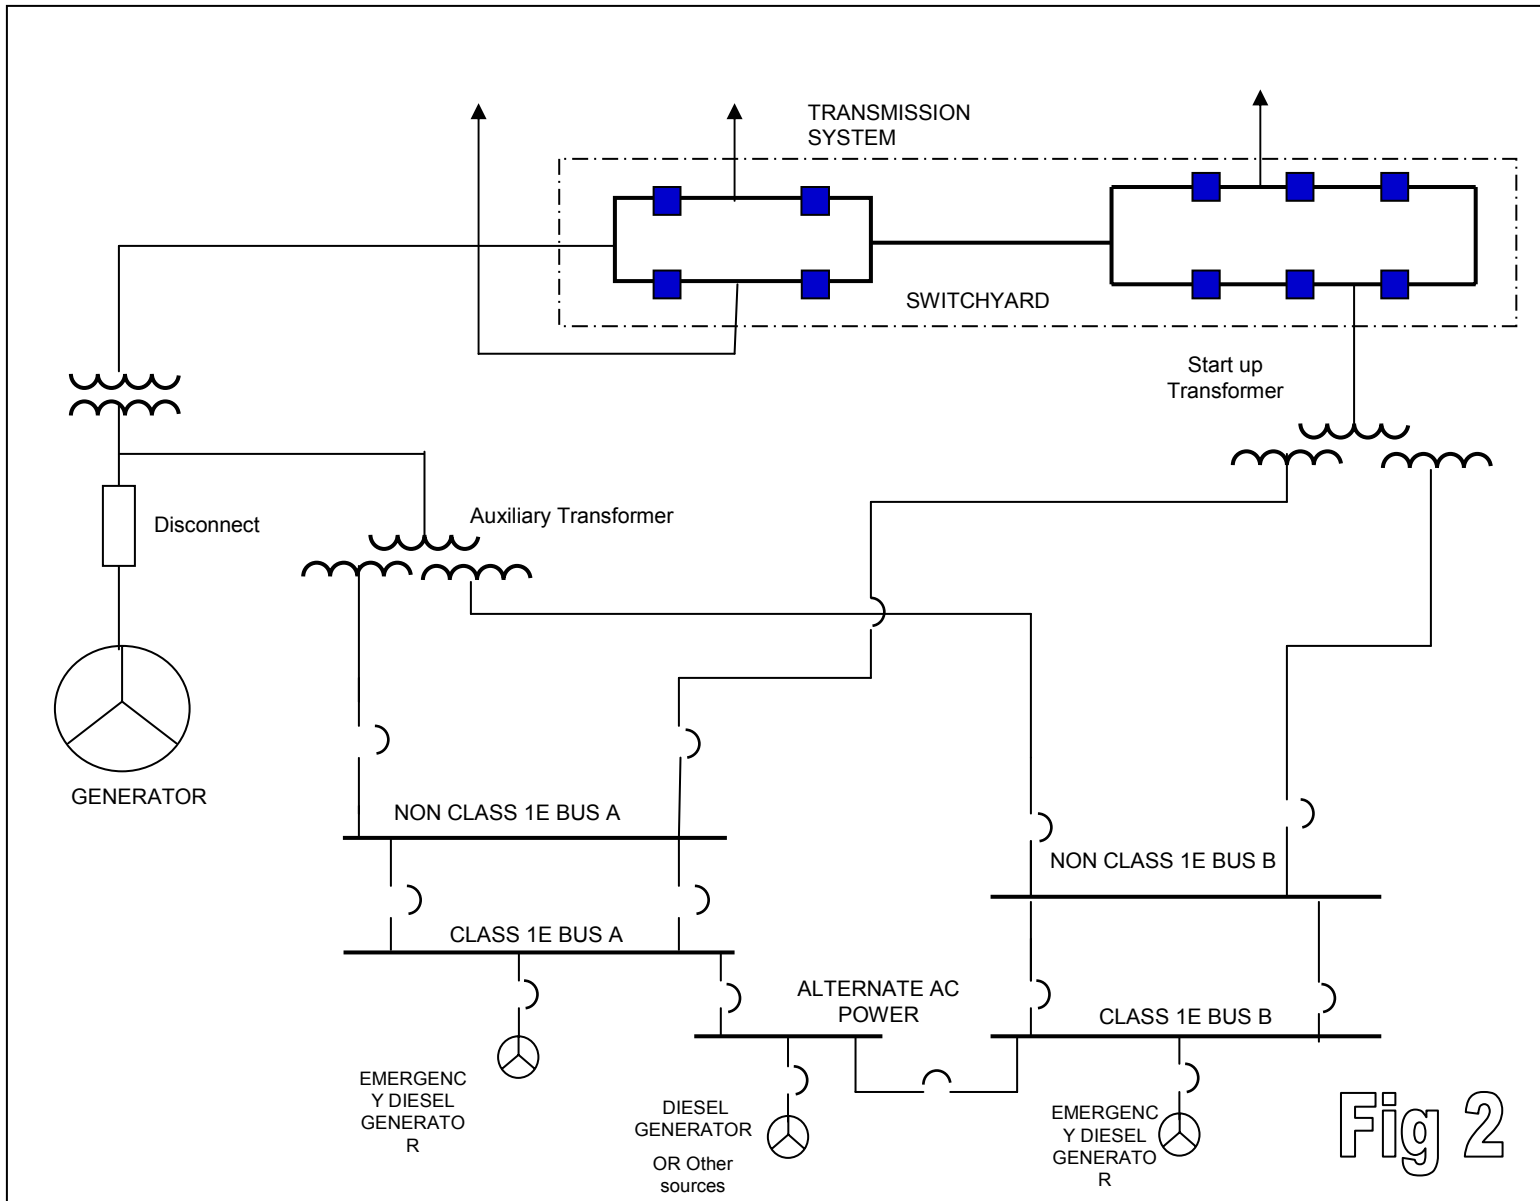

Fig 2
- ◆ Instead of a disconnect switch at the generator output, provide a breaker. Grid power will be available immediately following the trip (see Fig 2)